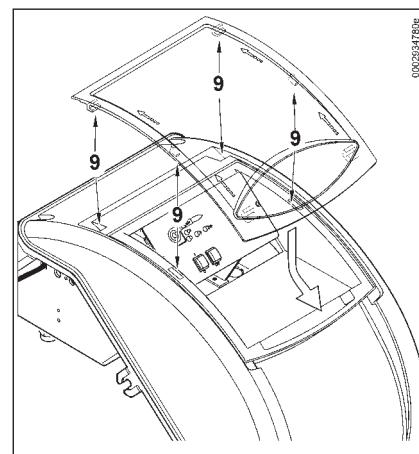

Fig. 5
- 5) To secure the transparent door on the panel properly, proceed as indicated in figure 5: position the hooks at their hooking points (9), slide the door in the direction indicated by the arrow until you hear a click that ensures its seal.